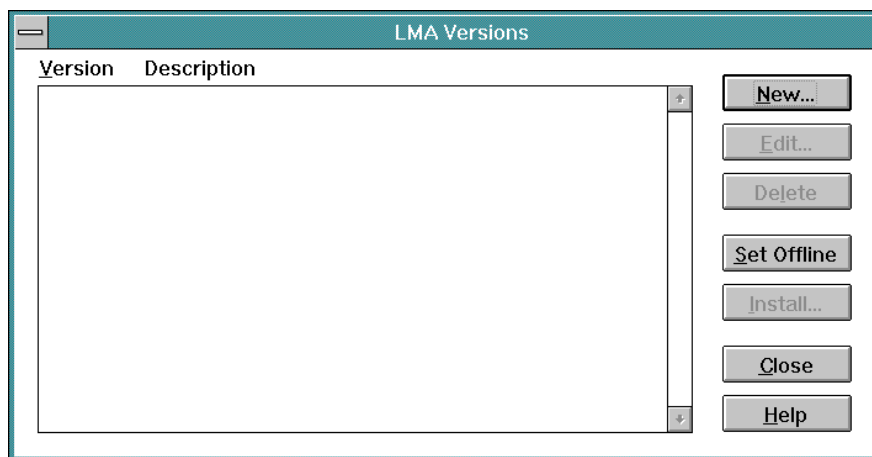

Figure 155. Blank LMA Versions Dialog Box
3. Type a maintenance authorization password (default is **LEVEL002**) and click the *OK* button. The *LMA Versions* dialog box appears (Figure 155).